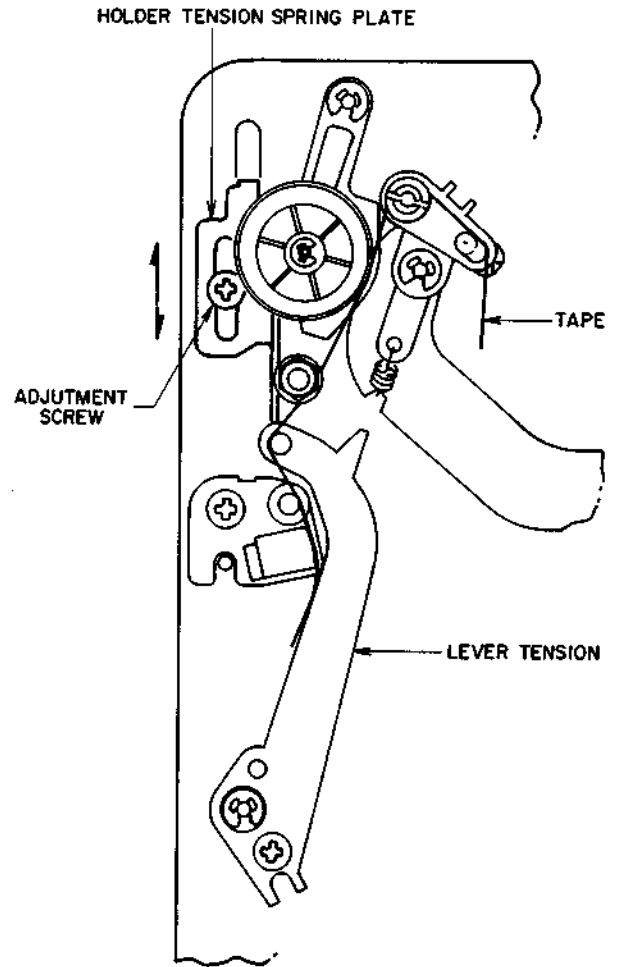

Fig. 5-4
(Refer to Figs. 5-4, 5-5)**
- 3) Loosen the adjustment screw shown in Fig. 5-4, adjust the holder tension spring plate so that back tension will be 20 gf-cm, and tighten the adjustment screw.